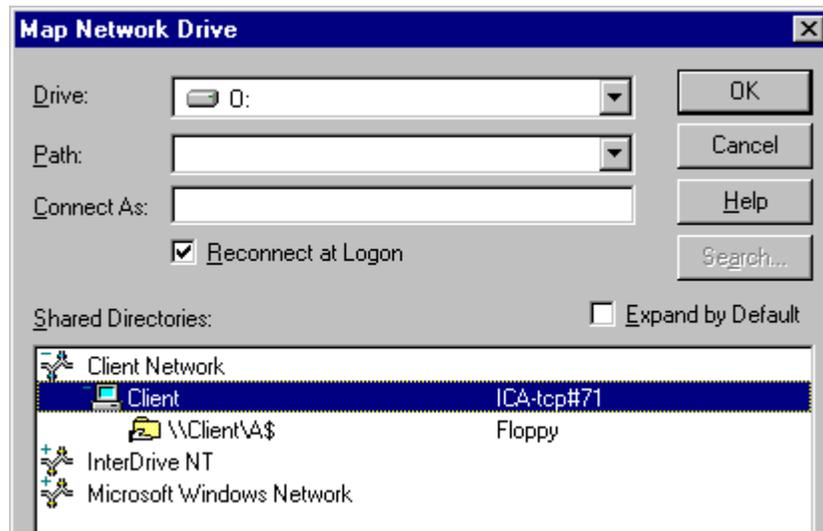

Figure 4. Connect Network Drive Dialog Box
4. Select a drive designation in the Drive field (see Figure 4). The letter that appears in the block is the next available unused drive designation. You can use this letter or select a different one by pulling down on the button in the block or at the end of the block.